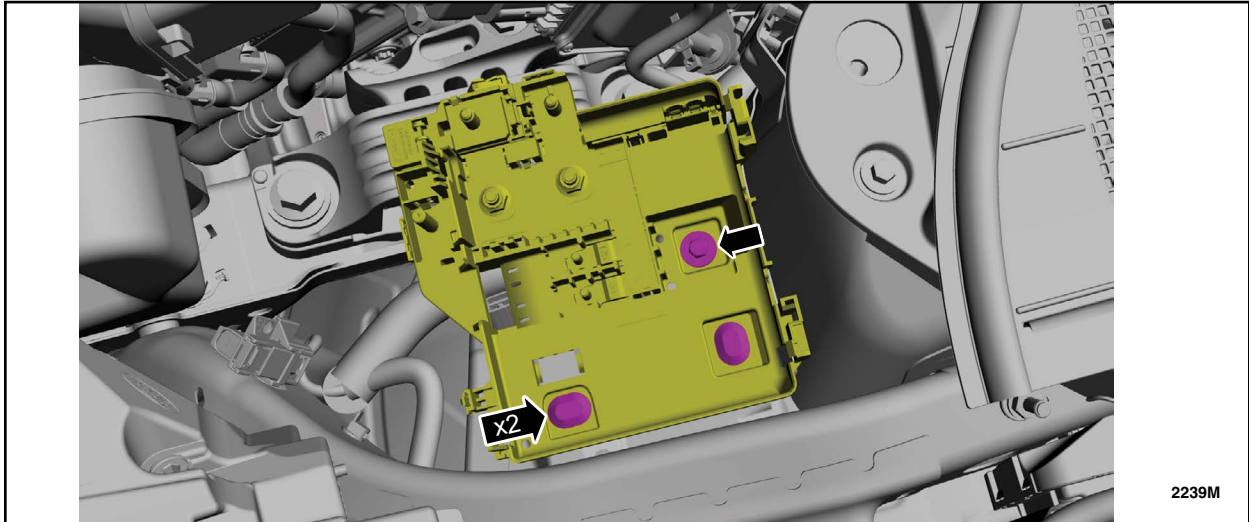

FIGURE 12
16. Remove the bolt and washer. See Figure 12.
Remove the battery junction box bracket retainers. See Figure 12.